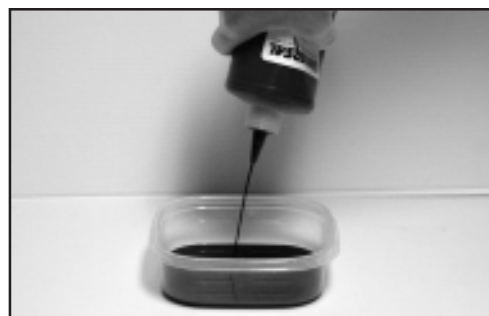

FIGURE 28
- 2 - Carefully place the roll into the container as shown in fig 28. Hold the roller and firmly press down on the foam side of the ink roll and then release the pressure. Rotate the roll and repeat this process several times pressing on different areas. This will force the air out of the roll and the voids will be filled with ink.